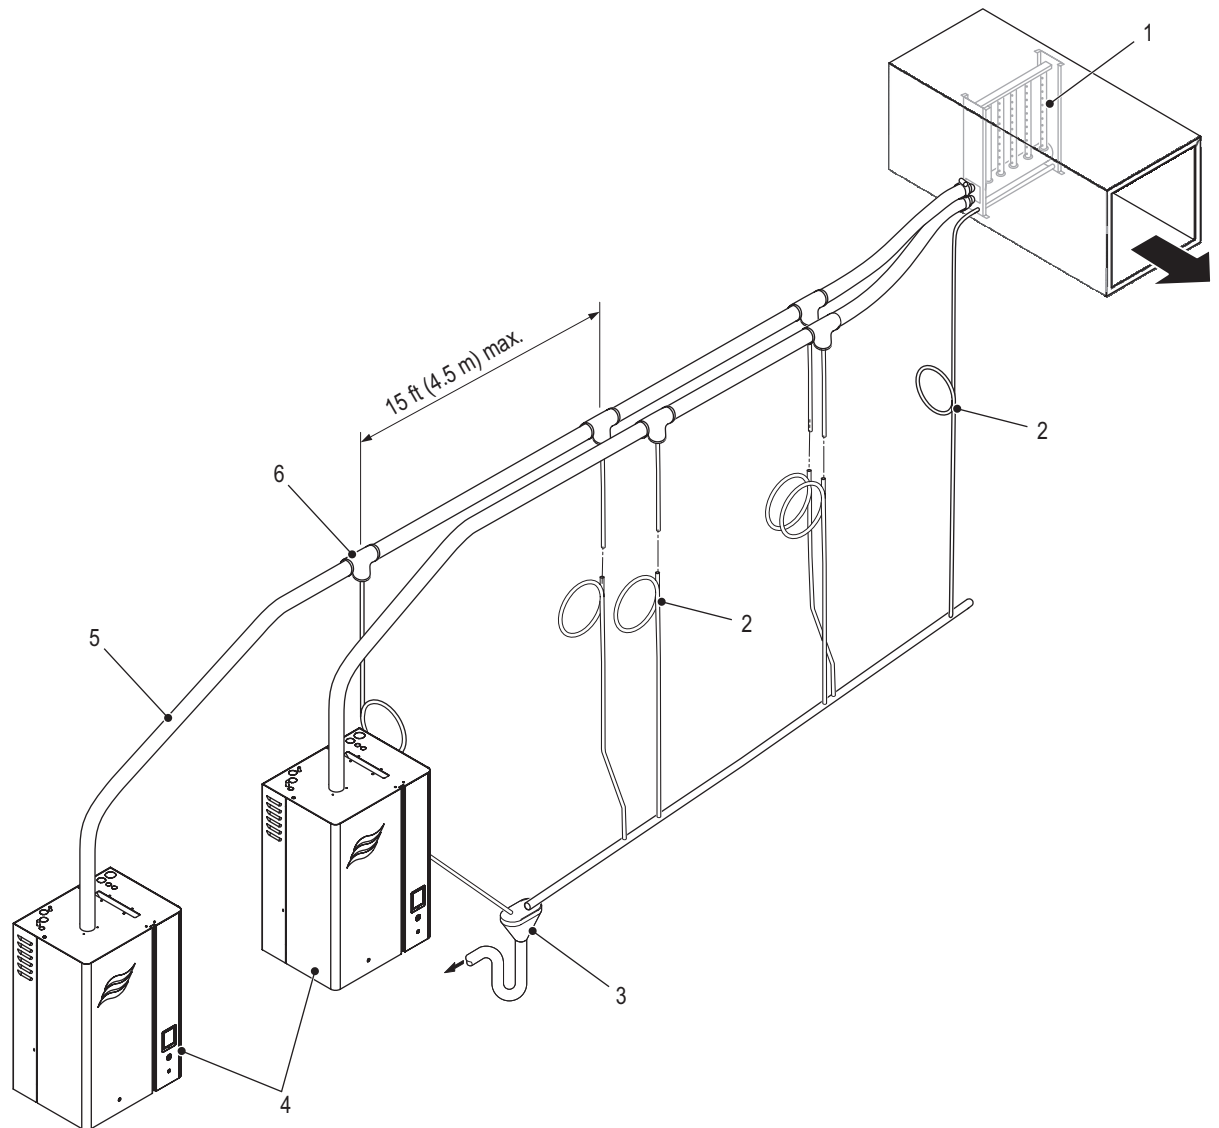

Figure 22: Combining Multiple Steam Lines
- ☐ Condensate lines and traps must be installed at regular intervals on long steam runs, and the maximum distance between condensate lines is 15 ft (4.5 m). Refer to Figure 22 on page 45.
- ❑ Multiple steam lines (from a Nortec EL 150/200 with dual steam cylinders, or multiple humidifiers) must not merge except at the steam distributor, and ONLY if the steam cylinders operate in parallel mode – refer to Figure 22. If necessary, a specifically designed optional Condair adaptor must be used to connect the steam lines to the steam distributor.